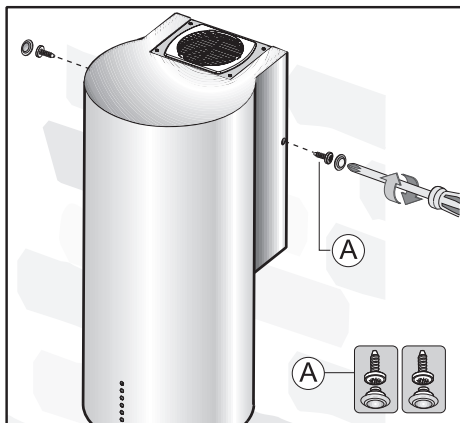
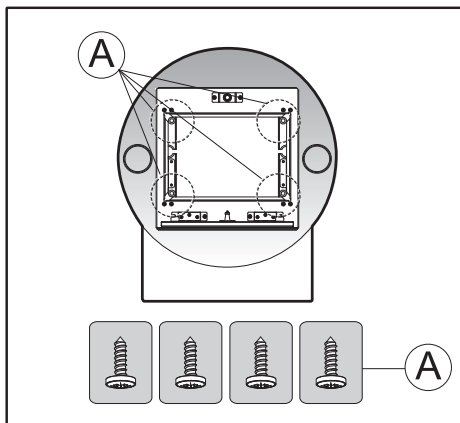

Fig.11
Fig.12
- First, fix the side screws D on the bodywork in place (these are connected to the frame underneath) as indicated in **Fig. 11**, then tighten the screws A on the lower part of the cooker hood as indicated in **Fig. 12**.